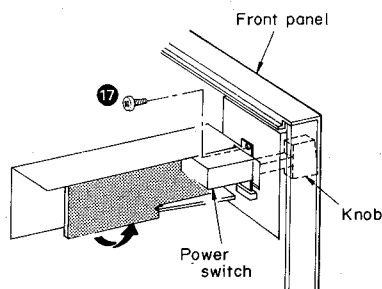

Fig. 5
1. Remove the setscrew (Fig. 5 : ⑰) of the power switch.